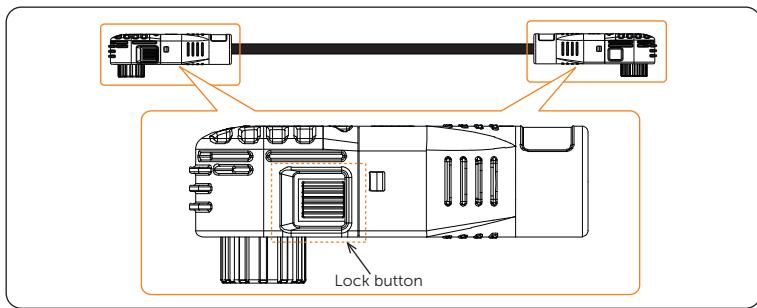

Figure 7-16 Lock button
- The Figure 7-16 is the power cable that finishes the installation of the female connector.